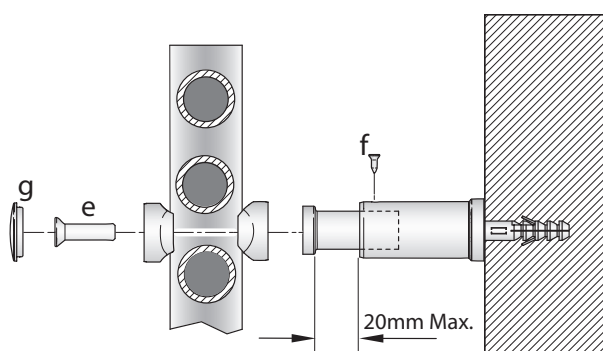

Fig. 4
6. Lift the towel rail now with the inner sleeve assembly in position, and align with the outer sleeve previously fixed to the wall. When all the inner sleeves are inserted correctly into the outer sleeves, determine the desired distance of the rail from the wall and secure in place using the fixing screw (f) - see Fig. 4.